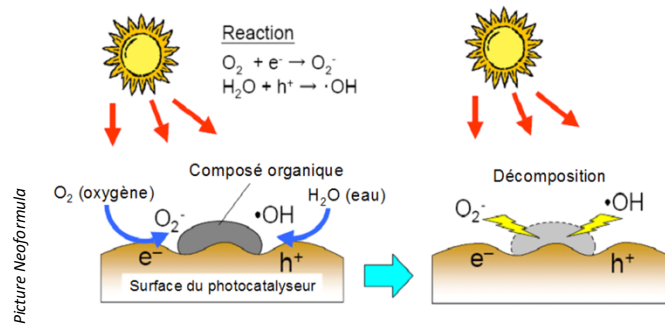

Figure 1 Material Degradation by photocatalysis
- Decomposition of surface pollutants by oxidizing the organic matter (figure 1)